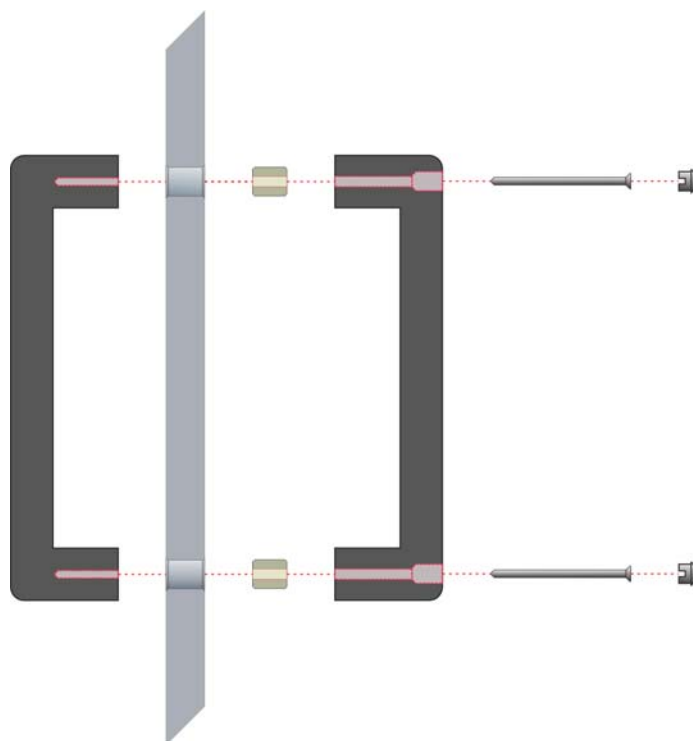

Figure 13. Installing Door Handle
36. Arrange the door handles and hardware as shown in Figure 13. Screws and cap are installed from inside the door.
39. Using the two (2) M4 x 100mm Phillips head screws included in the kit, attach the door handles to the glass door.